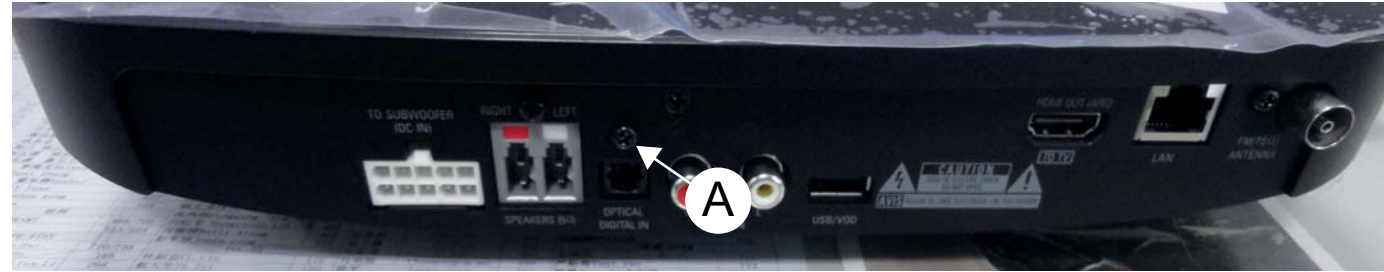

Figure 1
- 1) Loosen 1 screw "A" at the back panel to remove the top cover as shown in figure 1.